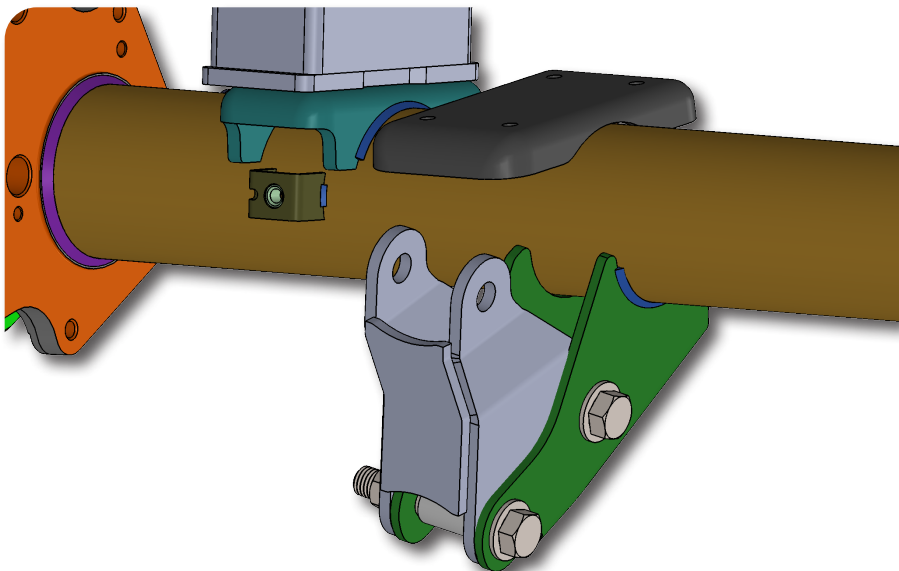

Figure 7
- 13. Denali (ARC) & ZR2 / AT4X Models Only:** Install the provided rear shock relocation bracket with the provided sleeves and 9/16" hardware in the factory shock location and the new hole drilled in the previous step. The bracket should offset the factory bracket to the outside of the vehicle (Fig. 7).